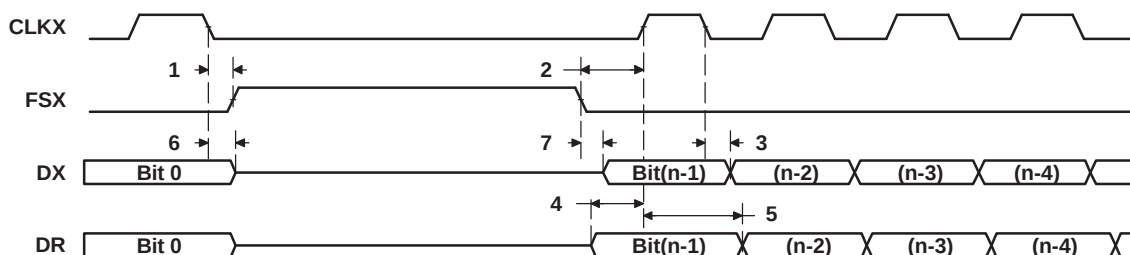

**Figure 6-32. McBSP Timing as SPI Master or Slave: CLKSTP = 11b, CLKXP = 0**
(see Figure 6-32)
(1) P = SYSCLK3 period in ns. For example, when running parts at 600 MHz, use P = 10 ns.
(2) For all SPI Slave modes, the rate of the internal clock CLKG must be at least 8 times faster than that of the SPI data rate. User should program sample rate generator to achieve maximum CLKG by setting CLKSM = CLKGDV = 1.
**Master or Slave: CLKSTP = 11b, CLKXP = 0(1)(2) (see Figure 6-32)**